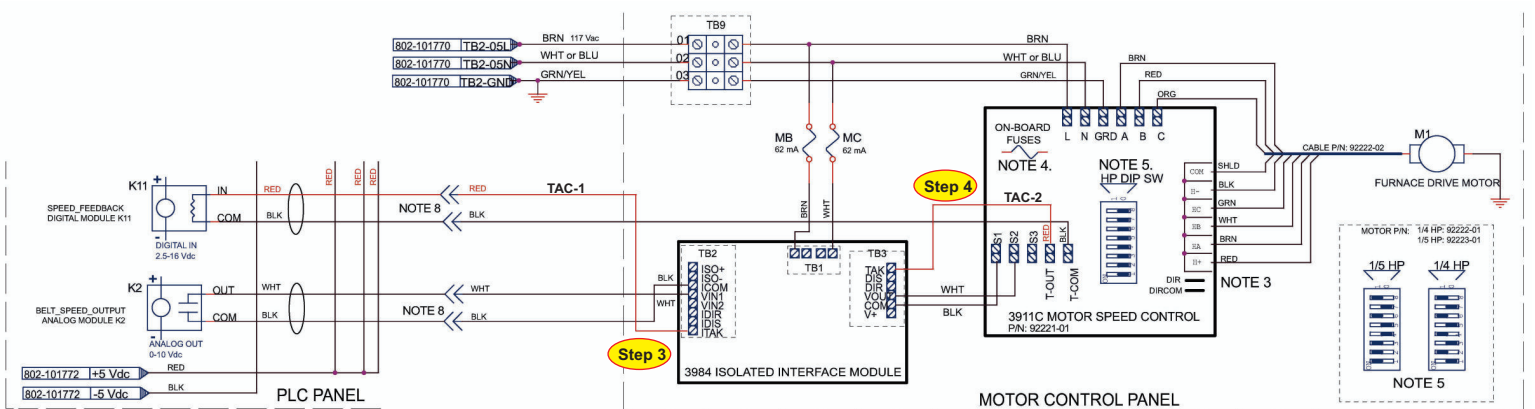

Figure 2. After Rewire (Rev 3)
3. Connect red TAC-1 wire to TB2-ITAK terminal on 3984 Isolated Interface module (figure 2).
4. Connect a new red TAC-2 wire from TB3-TAK on 3984 Isolated Interface module to T-OUT on 3911C Motor Speed Control board (figure 2).